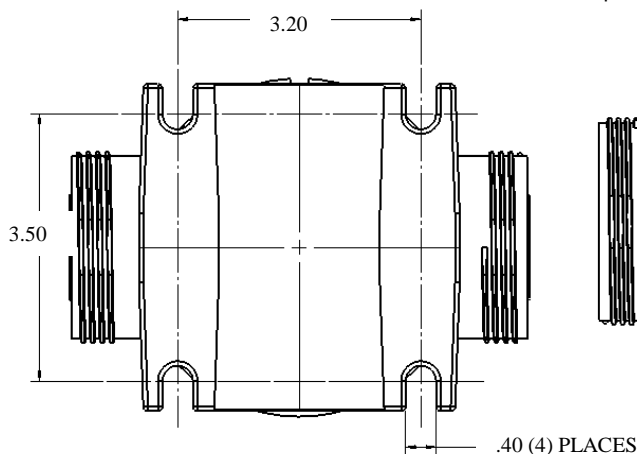

Fig. 1: SB-Series base mounting pad (bottom view) – 1/2" thru 1".
- 1.3.1.4.3.2. Flange bolts should be tight enough to compress the gasket and make a good seal, without distorting or putting excessive stress on the flanges. Suitable washers should be used between the bolt head and flange and the nut and flange. Bolts should be tightened in alternating sequence (Figure 1). See Table 1 for recommended torque.